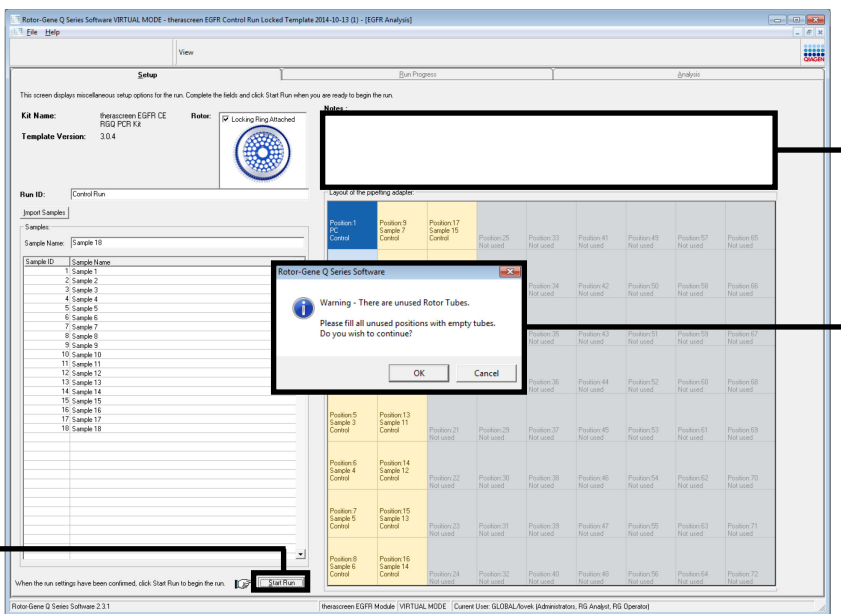

Figure 5. “Notes” dialog field (1), the “Start Run” button (2), and “Warning” of unused rotor positions (3).
16. When all sample names are entered, check they are correct. Add any additional information in the “Notes” dialog field, if necessary, and then click “Start Run” (Figure 5).
**Note:** If any rotor position is unused, a “Warning” will appear (Figure 5) to remind the user that all unused positions on the rotor must be filled with capped, empty tubes. Check that all unused rotor positions are filled with capped, empty tubes and click “OK” to proceed.